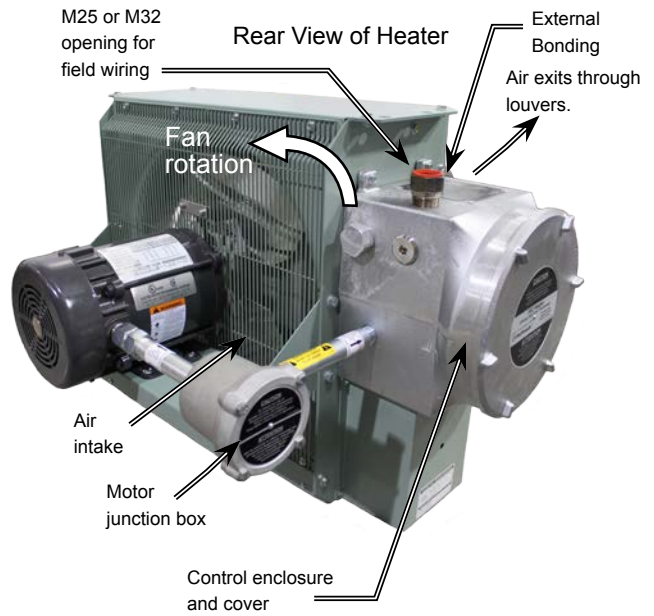
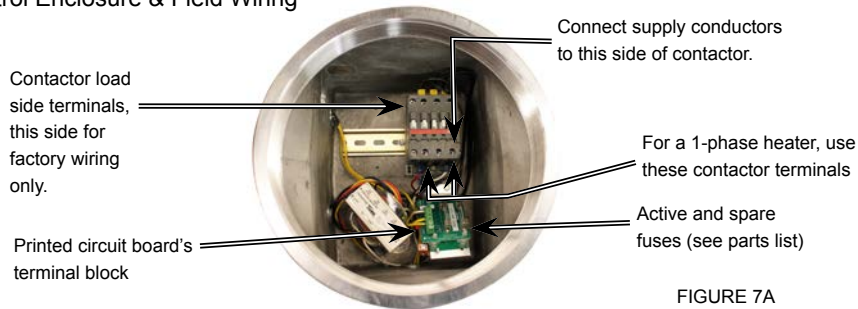

FIGURE 6
FIGURE 7A
1. The supply conductors, ground conductor, and room thermostat conductors all pass through the M32 or M25 opening (see Figure 6) and are to be wired into the control enclosure (see Figure 7A).
3. The internal grounding terminal in the control enclosure shall be used as the equipment grounding means. An external bonding terminal (see Figure 6) is provided for a supplementary bonding connection where local authorities permit or require such a connection.
- e. Ensure that the fan rotates freely. See Figure 6 for proper direction of fan rotation.